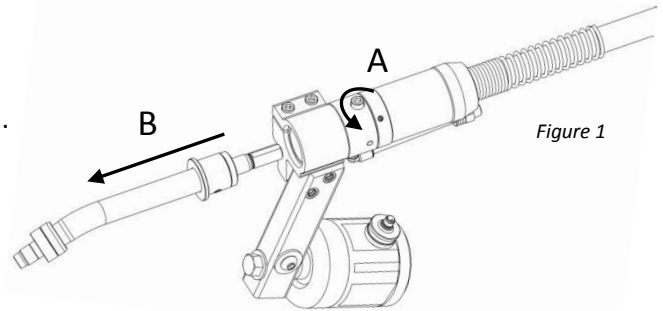

Figure 1
2. Loosen the neck clamp SHCS using a 5 mm Allen wrench (see 'A' in *Figure 1*).
3. Remove the neck (see 'B' in *Figure 1*).